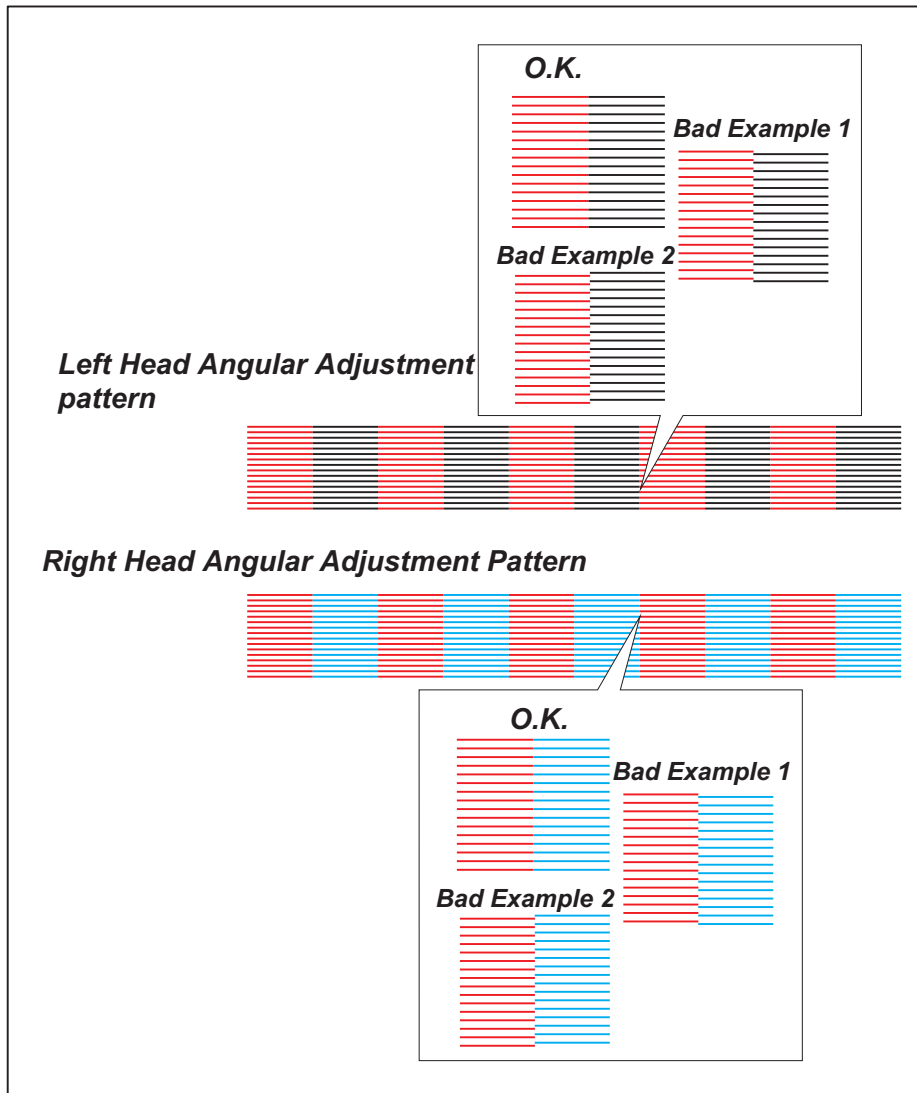

Figure 5-20. Judgment Standard to decide adjustment is necessary or unnecessary
Step16. Adjustment is not necessary, if the bad example shown in Figure5-20 is not found on the printed pattern. If the bad example is found, follow the next procedure and continue adjustment.
- Step24. Press Return key on the current screen, and check the adjusted head angle from the printed pattern. Refer to figure 5-20 and repeat Step12 through Step24, until the printer pattern becomes just like the O.K sample shown in the figure5-20.